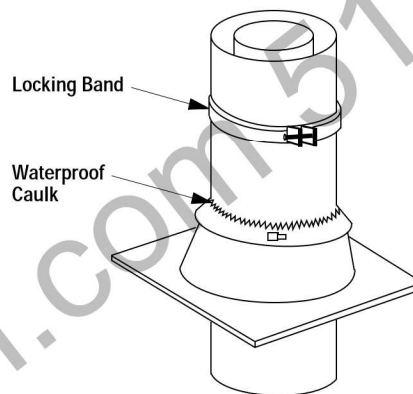

Figure 29
Step 8. Slide storm collar (ordered separately) over outer chimney, align with top surface of flashing, insert tab in slot, pull tight and bend tab back over slot. Seal storm collar to outer chimney with waterproof roof caulking around entire circumference of pipe. Also add extra roof caulking where storm collar meets flashing and to the tab/slot area to seal completely against water penetration (Figure 29). Check all joints very carefully to ensure no water intrusion can take place.
Step 9. Security Chimneys locking bands, Model FLB, may be required if the chimney extends too high above the roof flashing. As a general rule, if the chimney extends more than 6' above the roof flashing, the use of locking bands is advisable to strengthen the chimney assembly. Align the locking band at the chimney joint. Locking bands wrap around pipe joints equally covering the joints of both pipe sections. Use the nut provided and TIGHTEN snugly. Do not overtighten as this might damage the chimney section (refer to Figure 29).